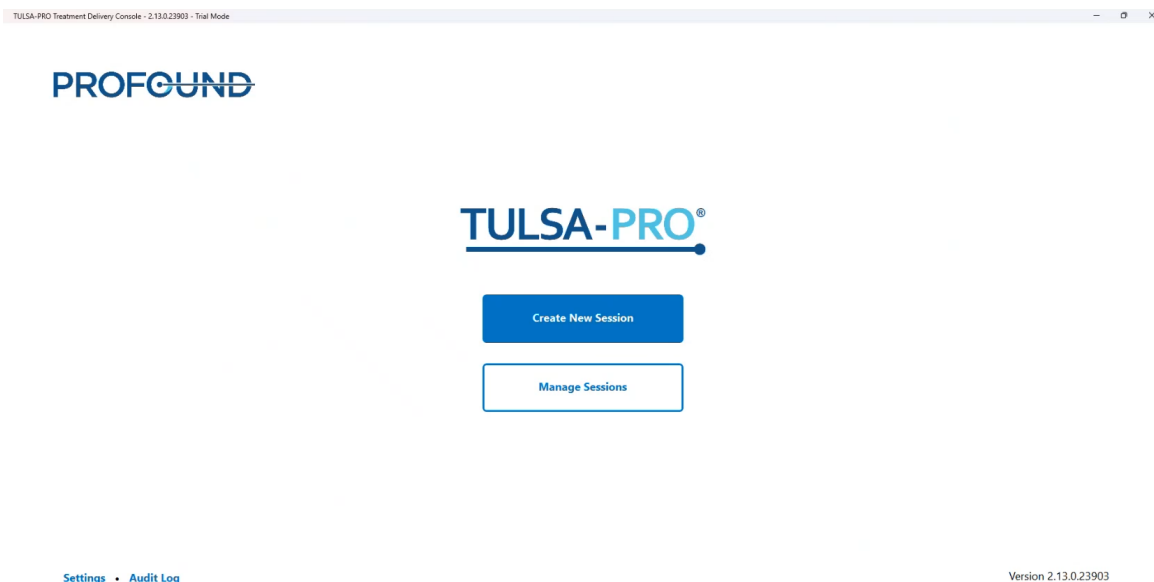

Figure 5: TULSA-PRO Start Screen
2. After synchronizing the system clocks, the **Start Screen** will appear (*Figure 5*). Click **Create New Session**.